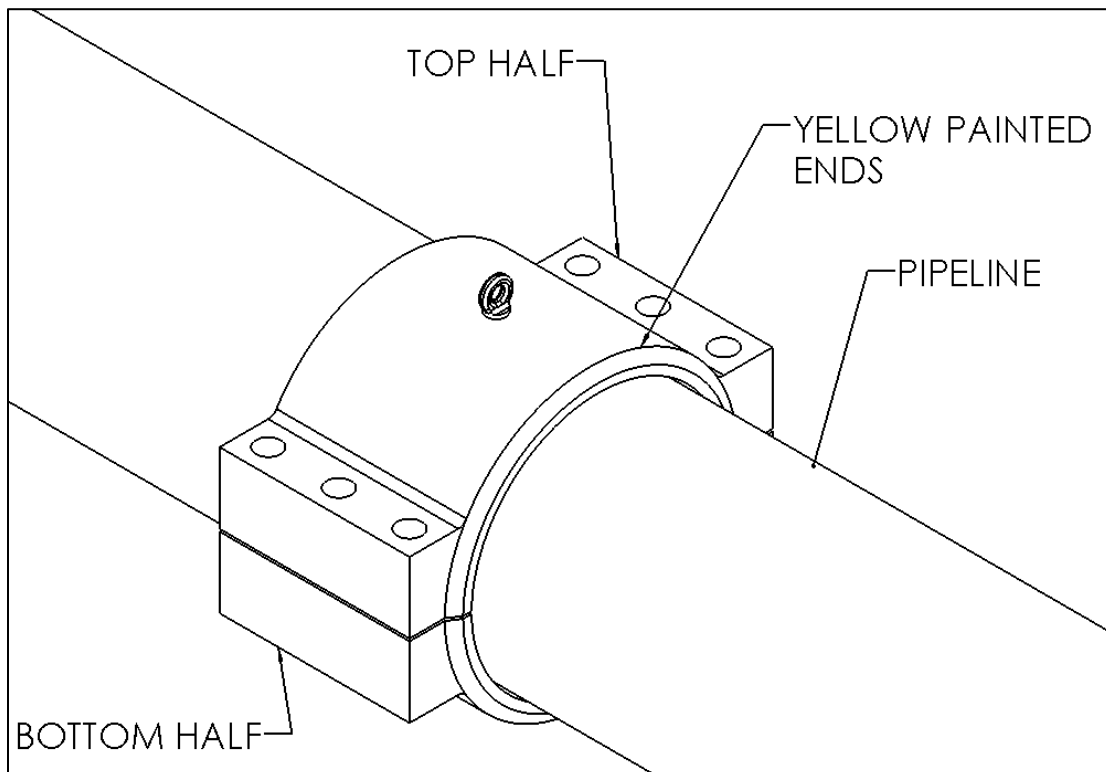

Figure 5
- Assemble the PLIDCO Split+Sleeve around the pipe making sure the yellow painted ends are matched. The fitting should be centered over the leak and/or damaged area as much as possible as shown in Figure 5. At no point should the leak be closer than ½" (12.7mm) from the circumferential seals. Try to avoid having any leak spraying directly onto the longitudinal seals.